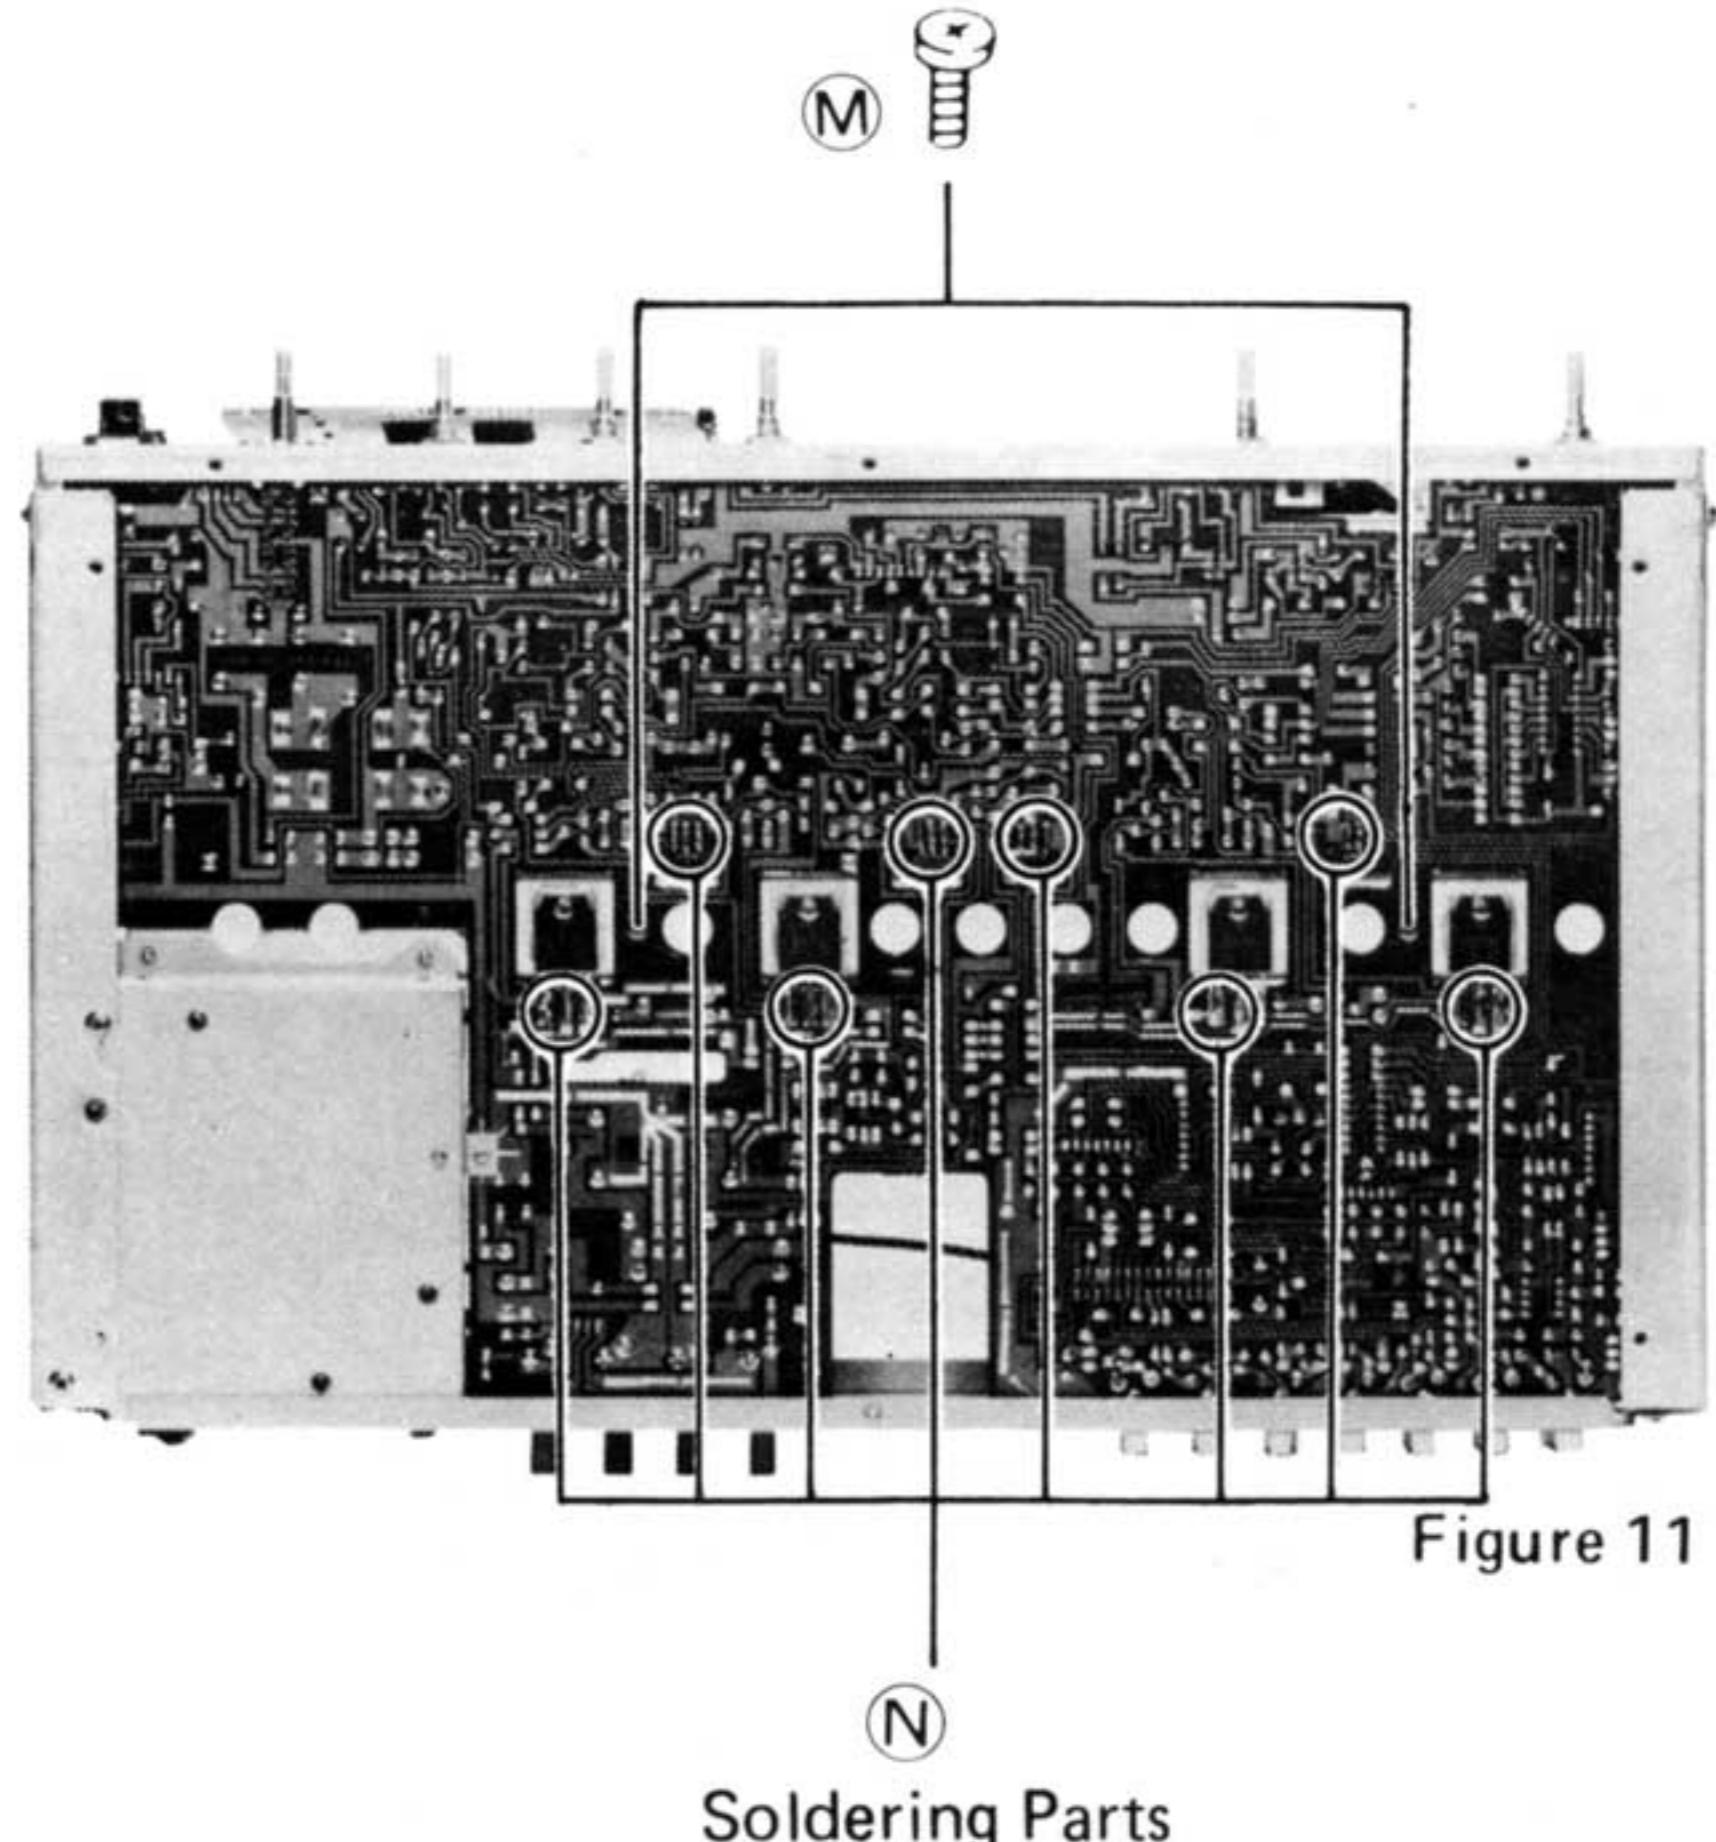

Figure 11
- 2 Remove two screws **(M)** ($3\phi \times 8\text{mm}$) holding Main P.C. Board. See Figure 11.
- 3 Dissolve eight soldering parts **(N)** of the transistor on Main P.C. Board, then Heat sink can be removed and Power Transistor can be exchanged. See Figure 11.